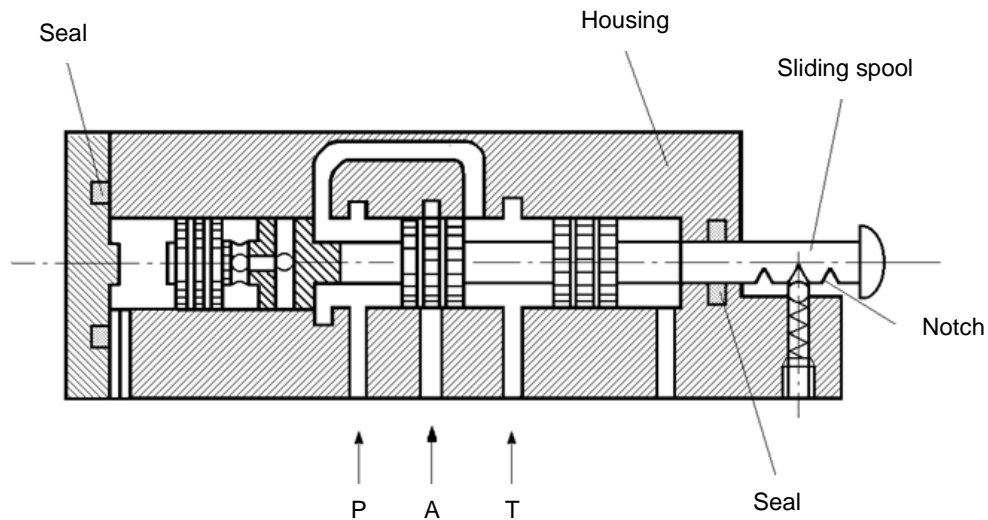

FIG 4.
A. The spool of a 3/3-way directional control valve (detent) permits flow from port "P" to port "T" in the neutral position. Port "A" is blocked in this position. (Fig 4)